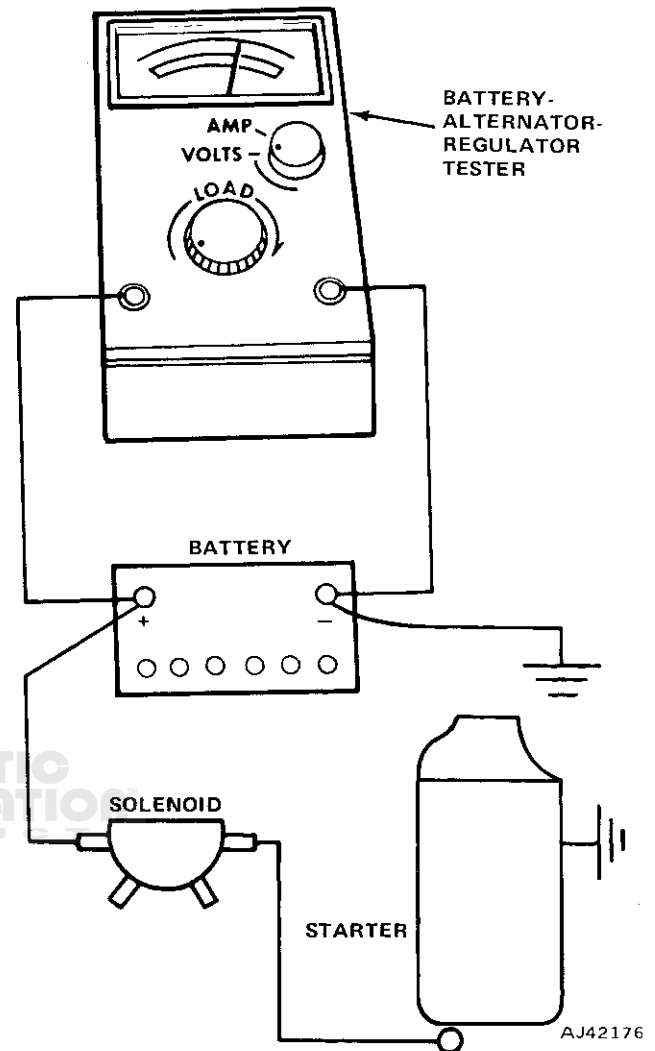

Fig. 1F-4 Starter Motor Current Draw Test
- (1) Prior to performing current draw test, battery must be fully charged as described in Chapter 1D—Batteries.
- (2) Disconnect and ground ignition coil secondary wire.
- (3) Connect remote control starter switch between battery positive terminal and S-terminal of starter solenoid.
- (4) Connect battery-starter tester leads as shown in figure 1F-4. Operate remote control starter switch and read voltage indicated on voltmeter while starter is cranking engine.